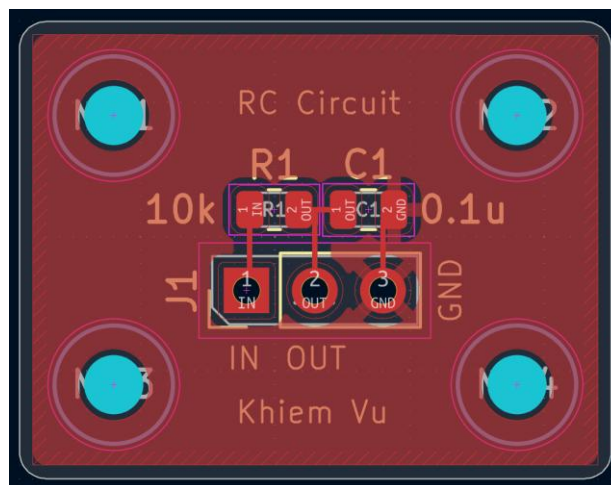

Fig. 2: RC circuit in KiCad PCB Editor
- As shown in Fig. 2, components are arranged to reflect the signal flow (IN→R1→OUT→C1→GND)